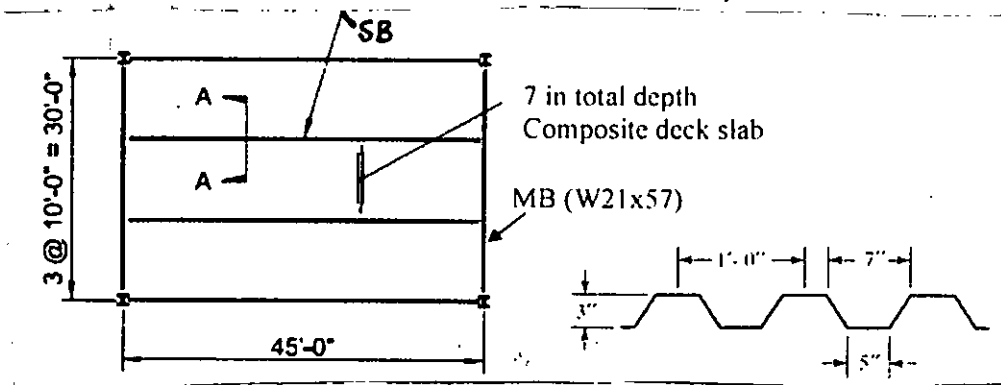

Fig. 2
2. (a) An interior slab panel of a composite floor is shown in Fig. 2. Determine the number and placement of 1.0 inch diameter stud type shear connectors for main beam MB (W21x57) shown in Fig.2, to develop the design moment capacity of the beam under full composite action. Show the detailing in a neat sketch. (Use AISC-ASD method).